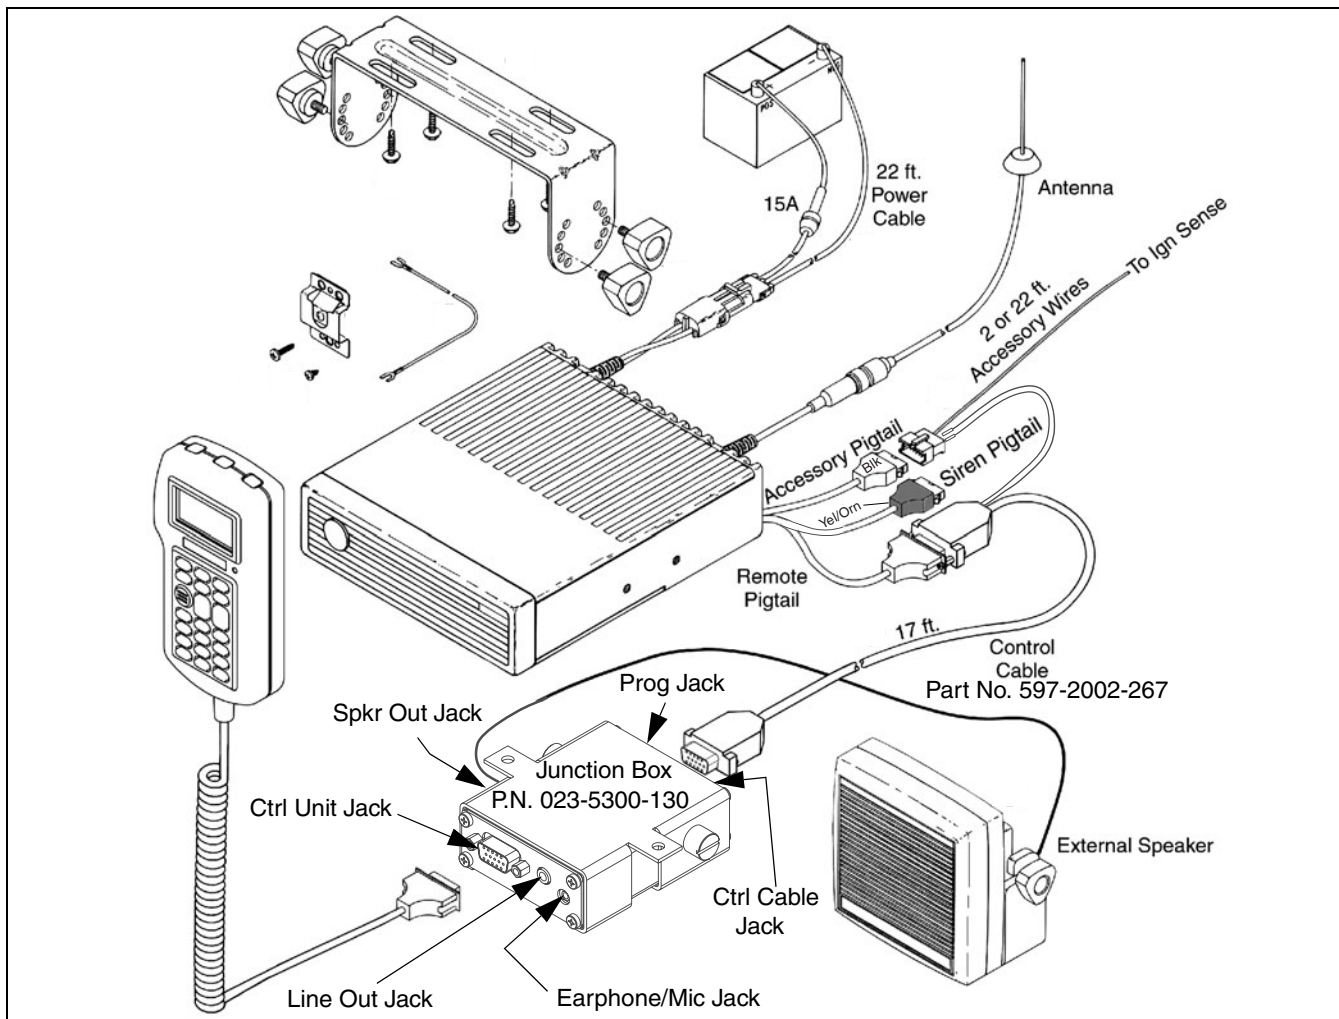

Figure 2-10 HHC Installation Components (Optional Junction Box Used)
The Handheld Control Unit replaces the standard control unit and DTMF microphone in remote mount applications. It does not contain an internal speaker, so an external speaker must be used. This control unit plugs directly into the remote control unit pigtail cable on the back of the transceiver or into an optional junction box. This junction box provides the following additional jacks (see Figure 2-10).
Optional Junction Box Used (Figure 2-10)
3. Route the 17-ft. control cable from the transceiver to the junction box as shown in Figure 2-10. Connect it between the remote pigtail of the transceiver and the male DB9 jack of the junction box.